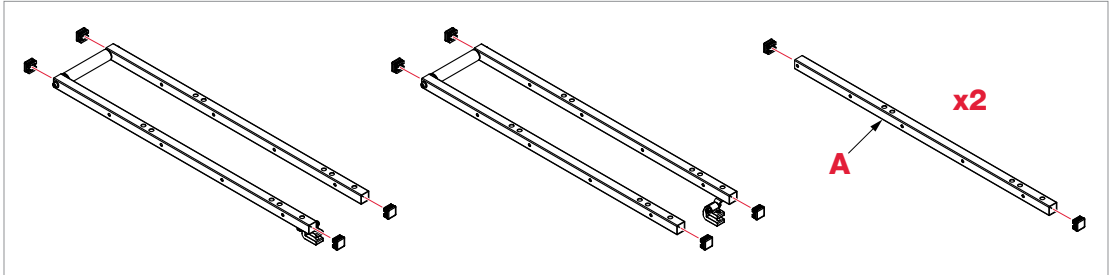

Fig. 16
- 11** Install a tube end cap into the open ends of the four table tubes attached to the two small table rollers and into the open ends of the remaining two solitary table tubes (not attached to table rollers) (see Fig. 16). You should have ten remaining tube end caps, which will be installed later.